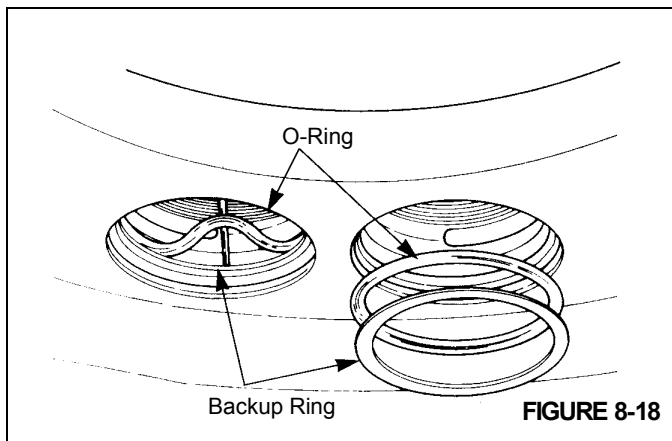

FIGURE 8-18
9. Remove and discard the O-ring and the backup rings (Figure 8-18).